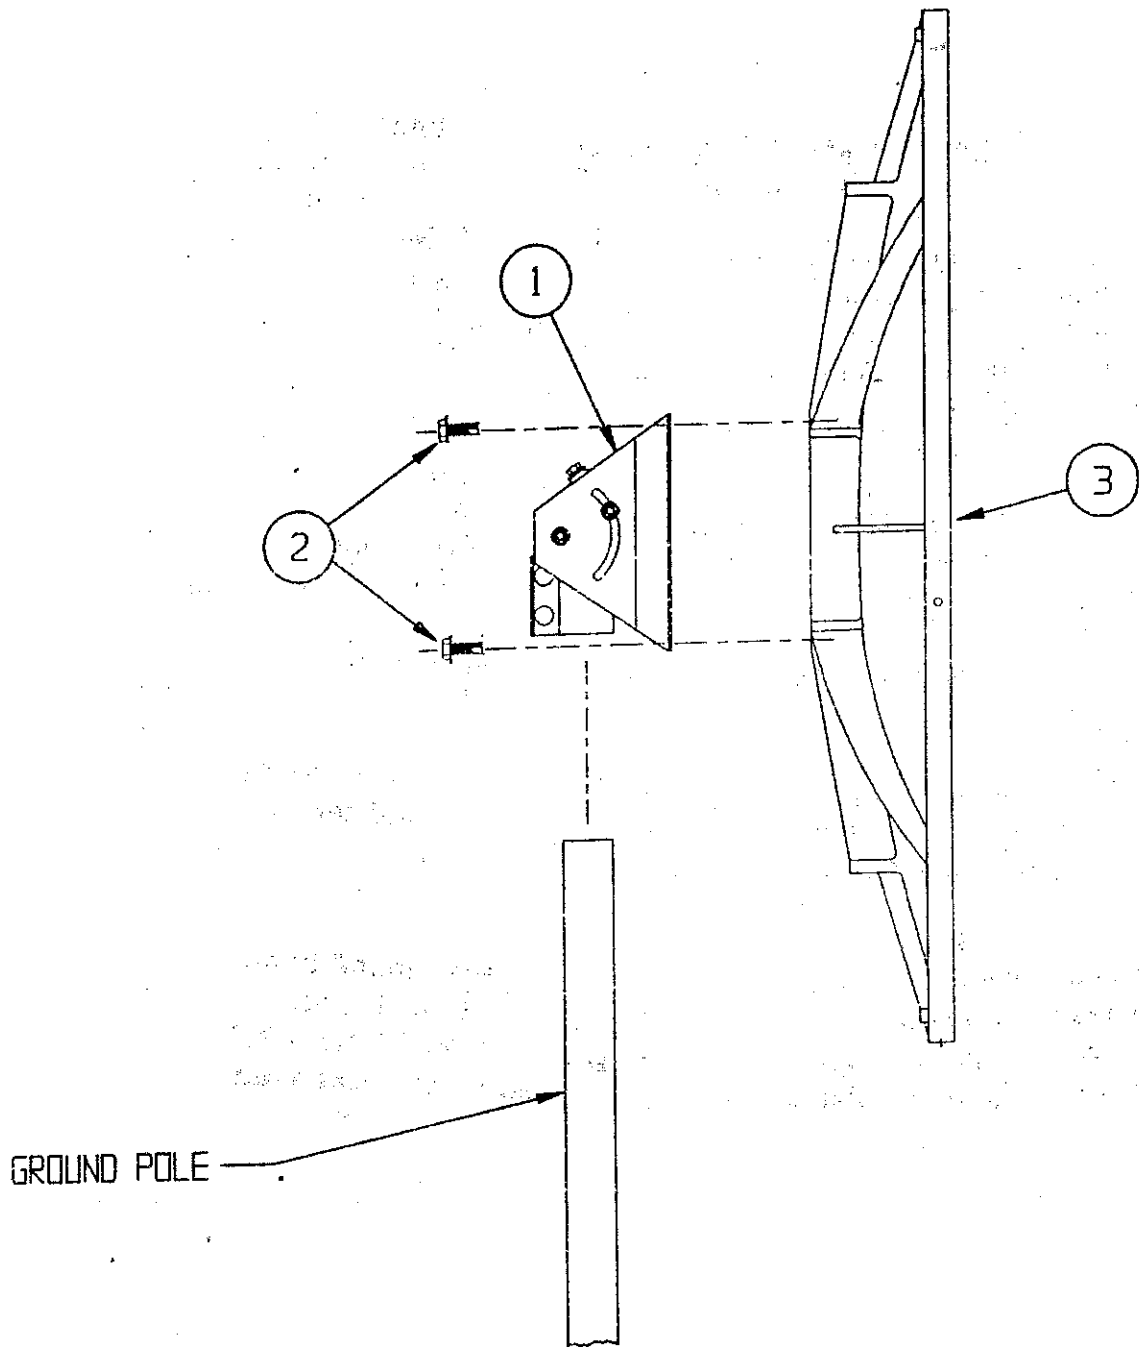
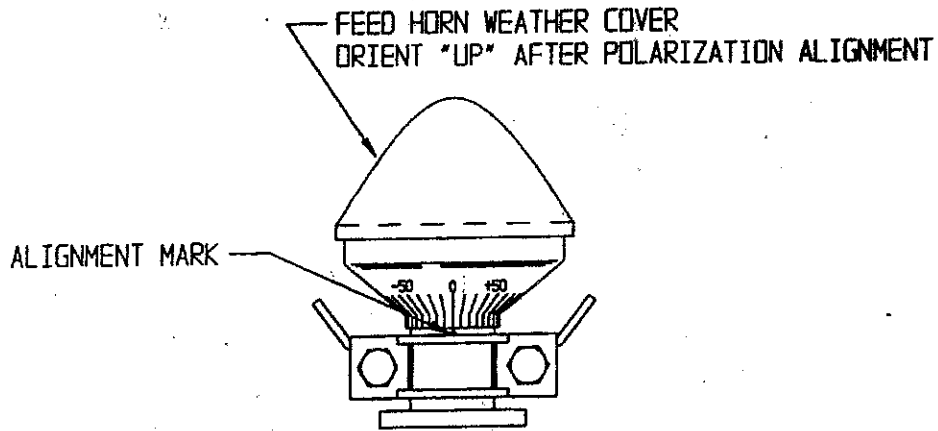

Figure 2.1-1
Figure 3.0-1
Step 1: Attach the reflector (item# 3) to the Az/El Cap (item #1) with [4] hi-lo screws (item#2). *Note: The bottom of the reflector has a hole for the feed rod, the top does not.* Tighten the [4] screws to 10 ft/lb. See figure 2.1-1.
- Step 1:** To adjust polarization, loosen the two 1/4" bolts on the feed bracket and turn the feed/LNB assembly until the correct polarization setting is aligned with the alignment mark on the feed bracket. See figure 3.0-1. Tighten the two 1/4" bolts to 5 ft/lb.
- Step 2:** Refer to the elevation scale located on the side of the Az/El positioner as shown in figure 3.0-1. To set the antenna system to the correct elevation angle, loosen the elevation pivot hardware (shown in figure 2.1-1) on both sides of the mount just enough to unlock the lock washers. Then turn the elevation adjustment screw. Note: the scale has a 22.5° offset angle built in. Therefore, when the elevation angle is read on the scale, the 22.5° offset in the reflector has been accounted for.